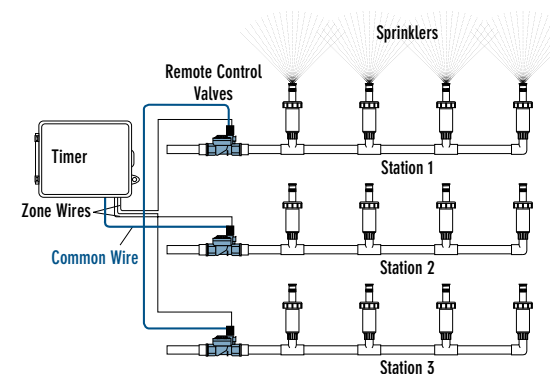

Figure 13: Connecting Sprinkler Wires to Valves
- Connect one wire from each valve (it doesn't matter which wire) to a single "common" sprinkler wire (usually white) [See Figure 13]